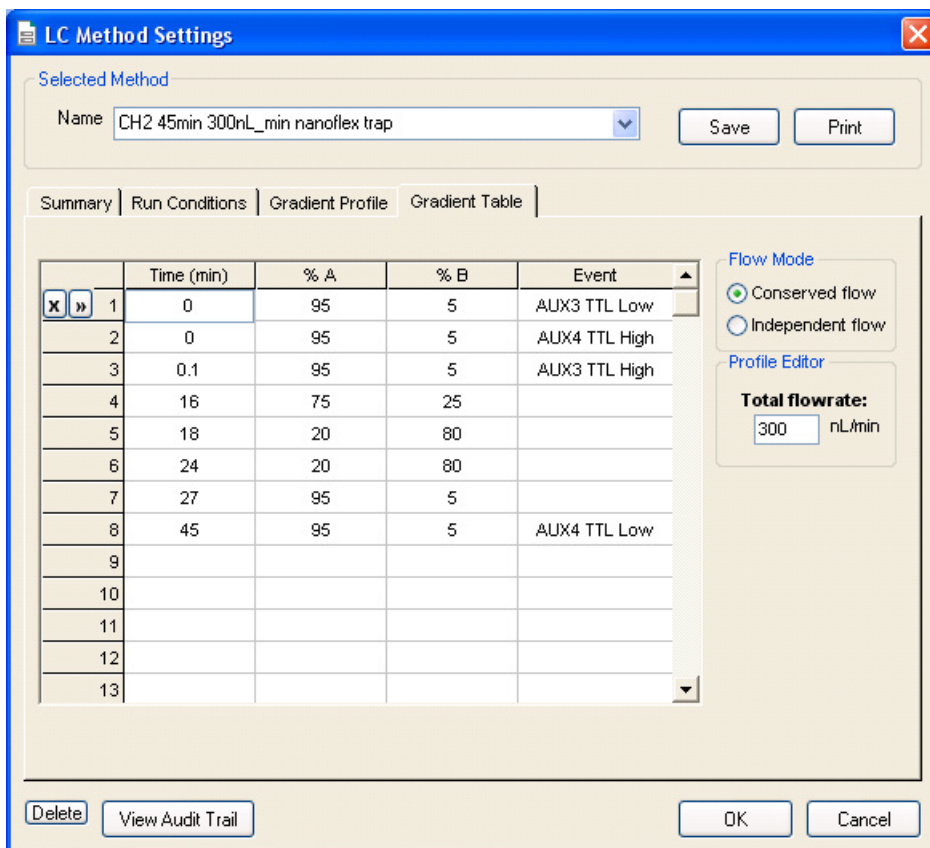

Figure 1-15 LC Method Settings dialog—Gradient Table tab (Nanoflex system)
4. On the **Gradient Table** tab, specify the method, as shown in Figure 1-15.